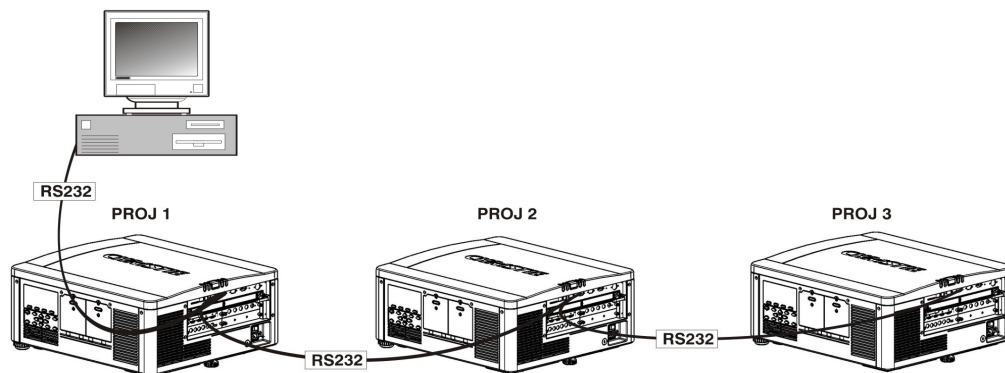

FIGURE 2-24 RS-232 NETWORK
3. Continue this pattern of connection with all projectors in the network. **NOTE:** The last projector in the network will only have a connection to the RS-232 IN connector, see *Figure 2-24 RS-232 Network*.